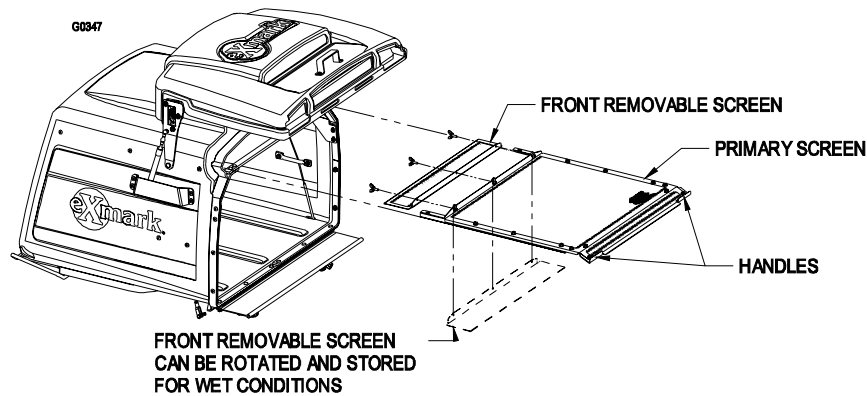

FIGURE 3
- Screen may be removed by firmly lifting screen handles. See Figure 3.